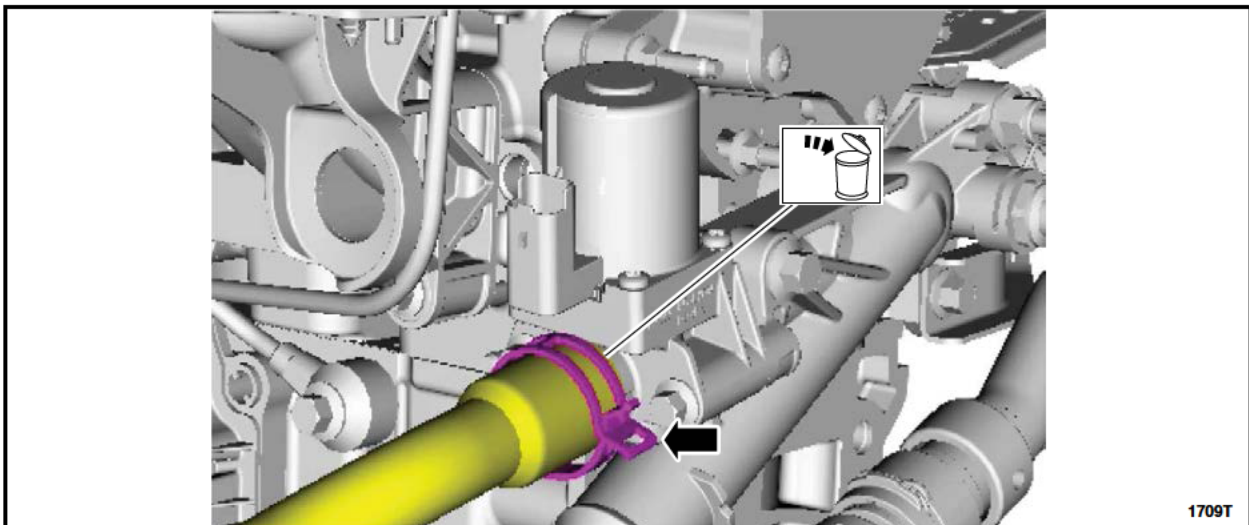

FIGURE H2
3. Release the clamp and disconnect the coolant hose. Discard the clamp. See Figure H2.